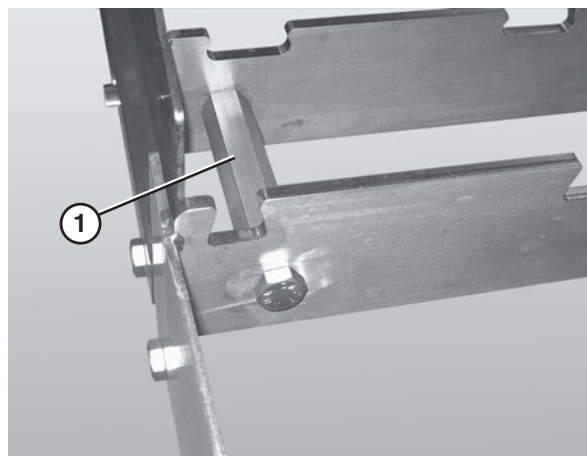

Figure 39
3. Connect the frame sections by bolting the hex post connectors (Figure 39, item 1) the sections of frame.